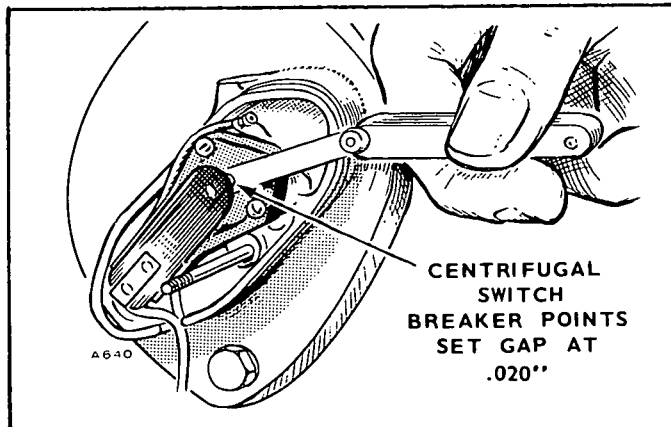

FIGURE 15. CENTRIFUGAL SWITCH
- (1) The centrifugal switch, Fig. 15 is wide open when engine is stopped. Loosen and move stationary contact to correct gap.